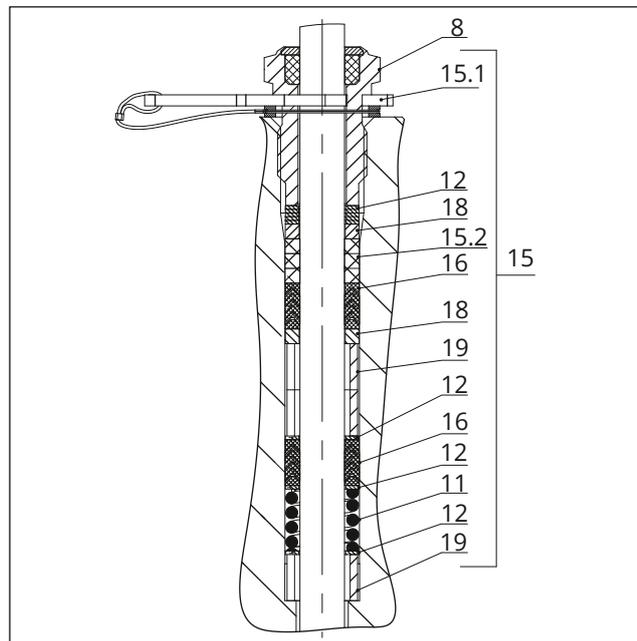
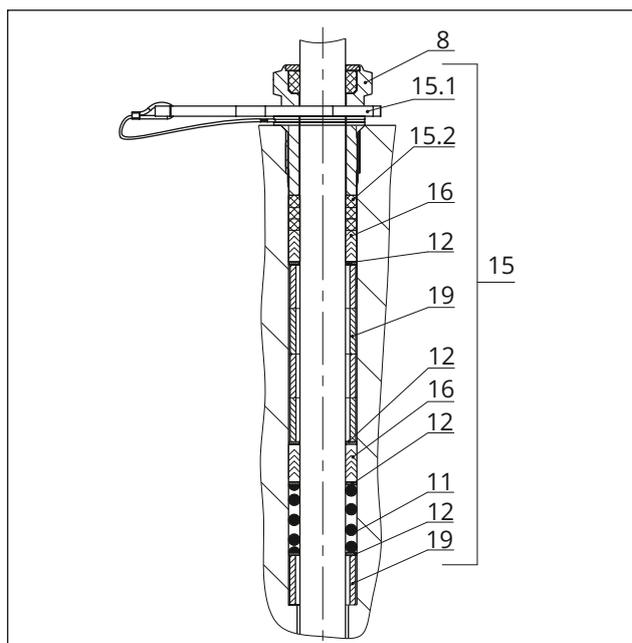

Fig. 26: ADSEAL packing: DN 15 to 40/NPS 1/2 to 1 1/2
Fig. 27: ADSEAL packing: DN 50 to 100/NPS 2 to 4
2. Carefully slide the packing parts over the plug stem into the packing chamber using a suitable tool. Observe the proper sequence (see Fig. 26 or Fig. 27).
4. Insert the red spacer ring (15.1) between the threaded bushing (8) and retaining ring (see Fig. 26 or Fig. 27).
16. Carefully slide the packing parts over the plug stem into the packing chamber using a suitable tool. Observe the proper sequence (see Fig. 25 or Fig. 26 and Fig. 27).
17. Firmly press the plug (5) into the seat (4). Fasten down the flange (2) with the body nuts (14). Tighten the nuts gradually in a crisscross pattern. Observe tightening torques.
18. Screw in the threaded bushing (8) and tighten it. Observe tightening torques.
19. Place yoke (3) on the flange (2) and fasten using the castellated nut (92).
20. Loosely screw the lock nut (10) and stem connector nut (9) onto the plug stem.